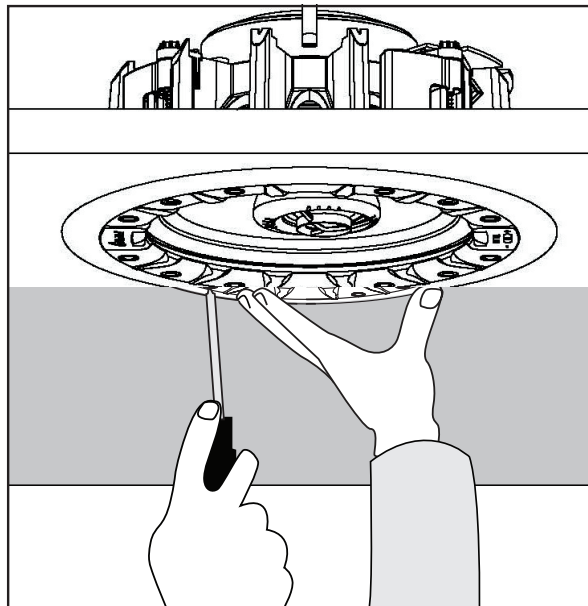

Figure 6
- Holding the speaker's front lip with your thumbs and index fingers, carefully slip the speaker into the cutout and hold firmly in place. (Figure 6).